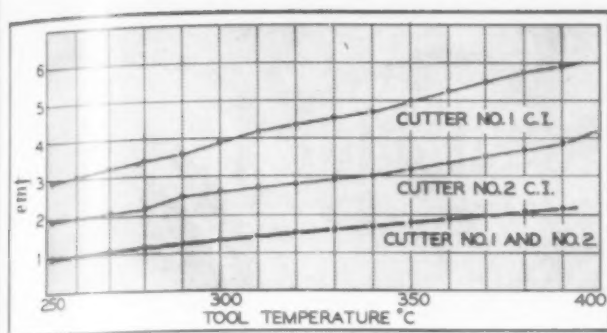

Fig. 3. Tool temperature vs. emf.
In order to prove that the differential emf indicates truly the tool temperature, a thermocouple with elements of both cutters has been calibrated and two other combinations of cutter No. 1 with the material cut followed. Result of temperature vs emf are tabulated in Table II, and plotted in Fig. 3.
3. Tool temperature vs cutting speed: Fig. 3 shows the relation between emf and tool temperature. It enables us to establish the relation between cutting speed and tool temperature simply by transferring several points from these two figures, as shown in Table III. From this table